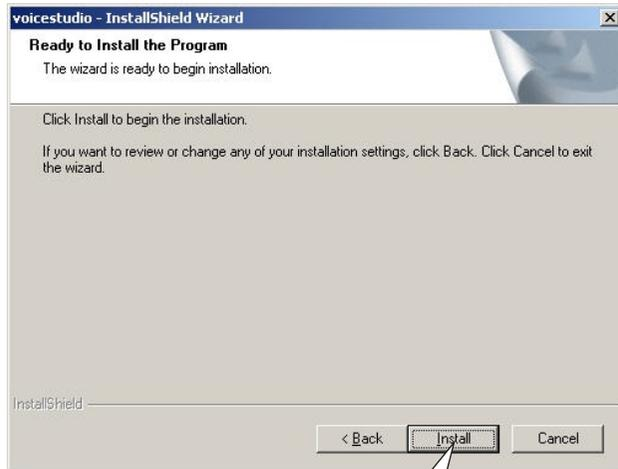

Figure 17
- Setup type selection, select the defaulted setup (Complete) type, clickNEXT to enter Next step, as shown in figure 17: